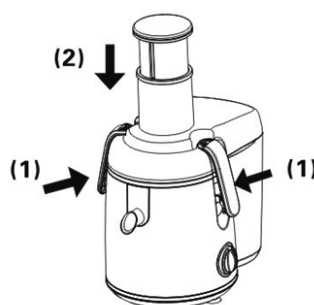

Fig.4
- Fasten the two fastening cramps, and make them locked to their positions (sound of click can be heard) fig. 4 (1), then align the concave groove of the propeller with the convex flange in the feeding tube, and slide the propeller into the feeding tube (2).